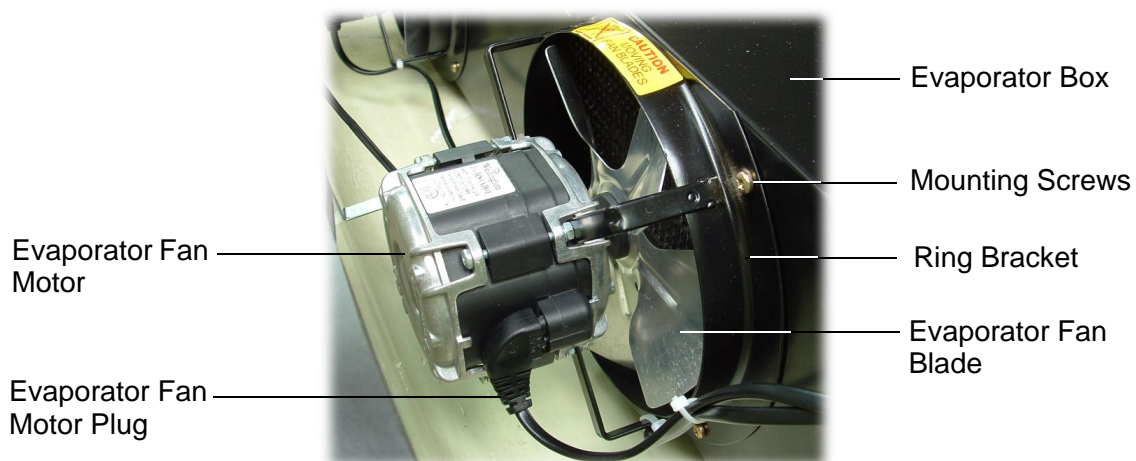

Figure 43: Evaporator Fan Motor
3. Remove the fan motor assembly by undoing the 4 mounting screws from around the ring bracket (see Figure 43 below).